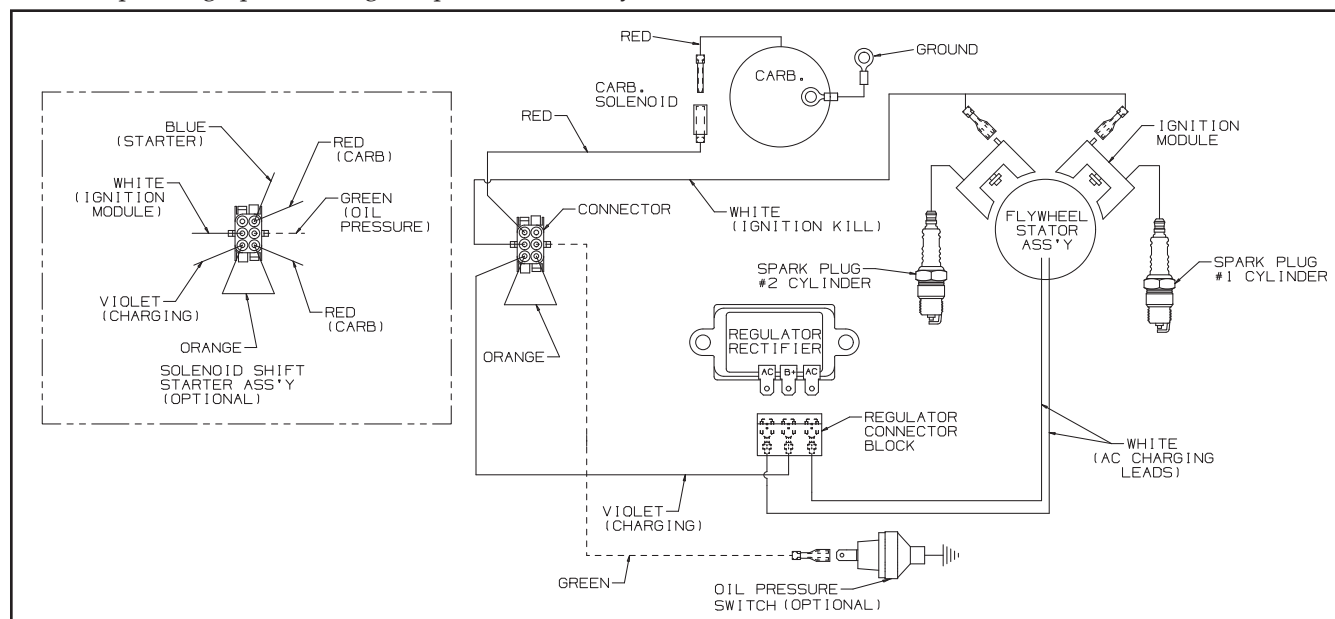

Figure 7-3. Electronic CD Fixed Ignition Timing System.
The **Fixed Ignition System** utilizes a Capacitive Discharge (CD) coil (See Figure 7-3). This is a basic ignition system that uses a fixed ignition module where the ignition timing and spark remains constant regardless of the engine speed.
This system (Figure 7-3) consists of the following components: